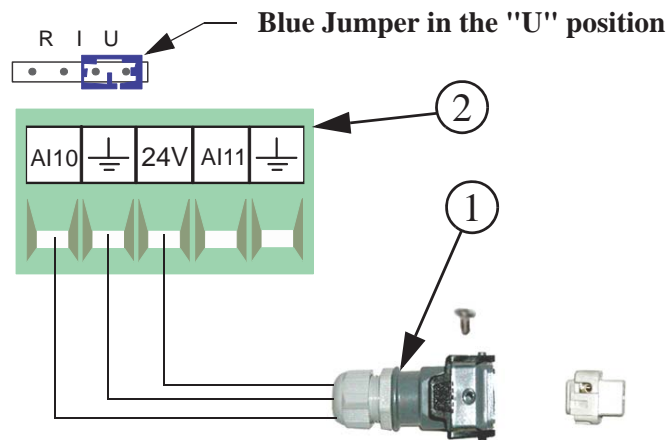

Figure 25. Relative Humidity Sensor Wiring
The optional Relative Humidity Sensor (**Item 1, Figure 25**) requires a three-conductor wire to connect the sensor to the Chore-Tronics® 3 I/O board. The Sensor is connected to one of the Analog (AI) Inputs on the IO board.
Note: Terminal #1 on the relative humidity sensor is connected to the +24 v terminal on the IO board (see diagram). This is the same +24 v terminal used by the Static Pressure Sensor. Terminal #2 on the Relative Humidity Sensor is connected to the Analog Input (AI) terminal of the analog Input being used (**See Figure 25**). Terminal #3 is connected to the ground terminal of the Analog Input (AI) being used. Make sure that the Blue Jumper above the Analog Input that the RH sensor is connected to is set to "U".